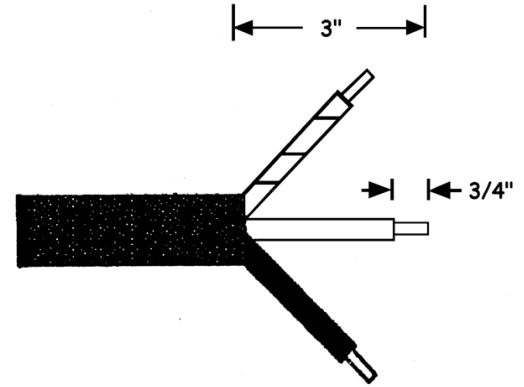

Figure 2.
- 1) Prepare the power cord by stripping jacket and insulation as shown in Figure 2.